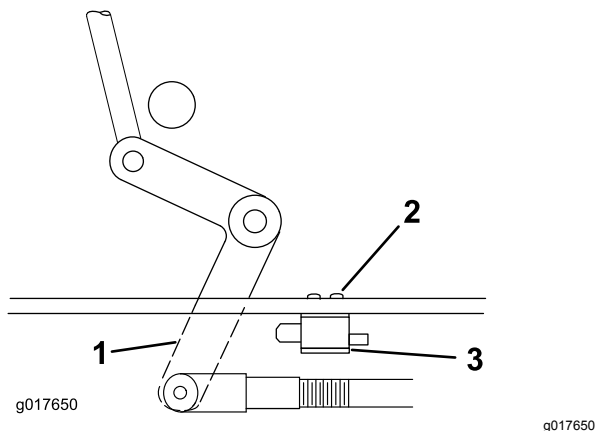

Figure 49
4. If needed, adjust the PTO-safety switch by loosening the bolts securing the switch bracket (Figure 49).
Important: Ensure that the bellcrank does not touch the switch body; otherwise, damage to the switch could occur (Figure 49).